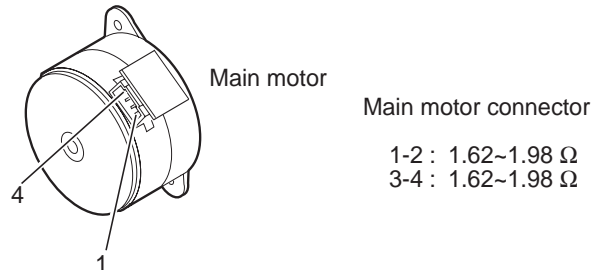

Figure 3-4 Main Motor Connector
- (1) Check the voltage (+12 V) at both terminals of C501 located on the MCNT board.
- (2) Check the main motor's resistance. 1.62 ~ 1.98 Ω/1 phase is normal. (Fig. 3-4)
- (3) Replace the main motor.
- (4) Replace the SCNT board.
- (5) Replace the MCNT board.